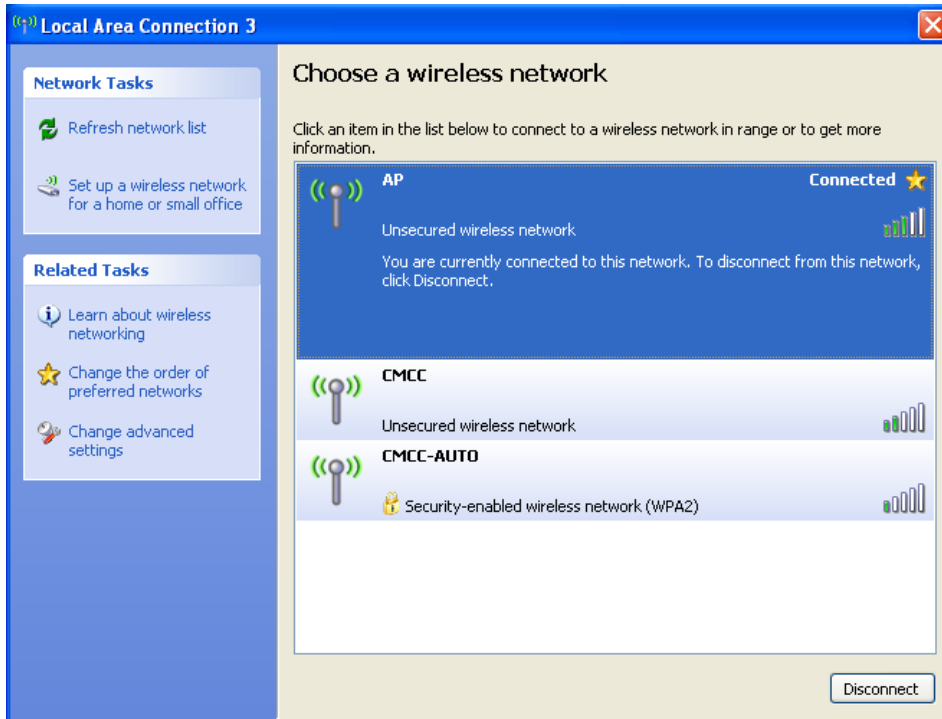

Figure 11
4. When it shows “Connected” as the picture below, then you can enjoy wireless access to Internet now.(Figure 11)